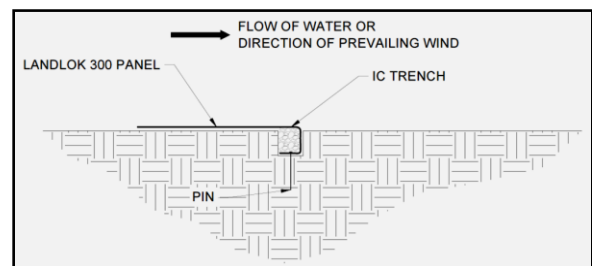

Figure 7: Initial Channel (IC) Trench Complete
5. Fold the Landlok 300 panel over the top of the compacted IC trench (Figure 7) and place each panel end into the respective COS trenches.